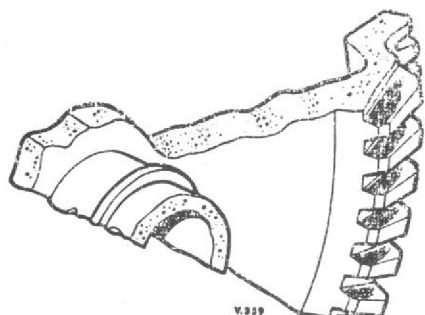

Fig. 14. Example of marking blue on a correctly meshed gear
28. Marking blue must be used on the gear teeth to check that the gear meshing is accurate. The marking blue must be painted on all the teeth of the accessory drive bevel gear with a small brush, and the gears rotated with a rocking motion until all the driven gear teeth have been marked. For correct marking of the driven gear each tooth should be marked over approximately 60 per cent of its total length starting from the "toe" or small end. The first 45 to 50 per cent of the tooth should be heavily marked, and the rest lightly marked as shown in fig. 14.